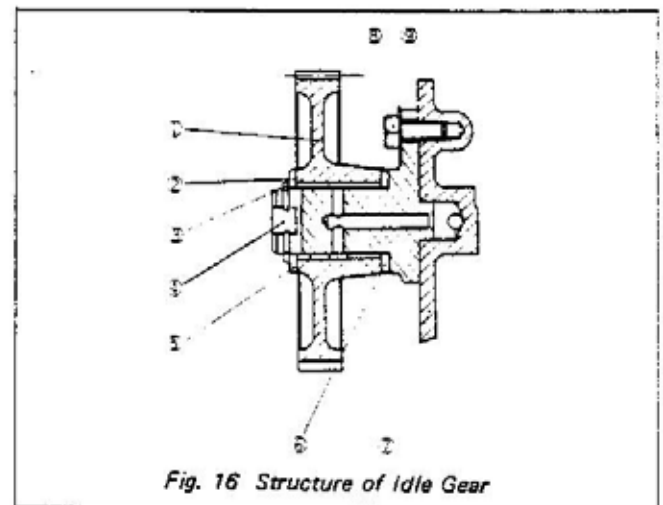

Fig. 16 Structure of Idle Gear
7. The structure of the idle gear is as shown in Fig. 16.